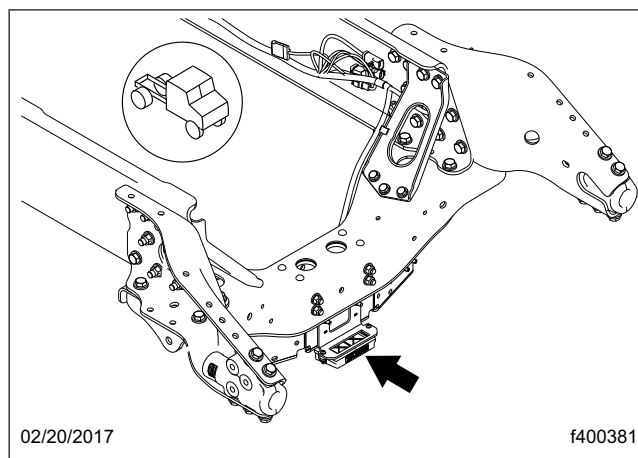

Fig. 13, TPMS Receiver
6. Disconnect the wiring harness and the antenna cable from the TPMS ECU receiver. See **Fig. 13**.